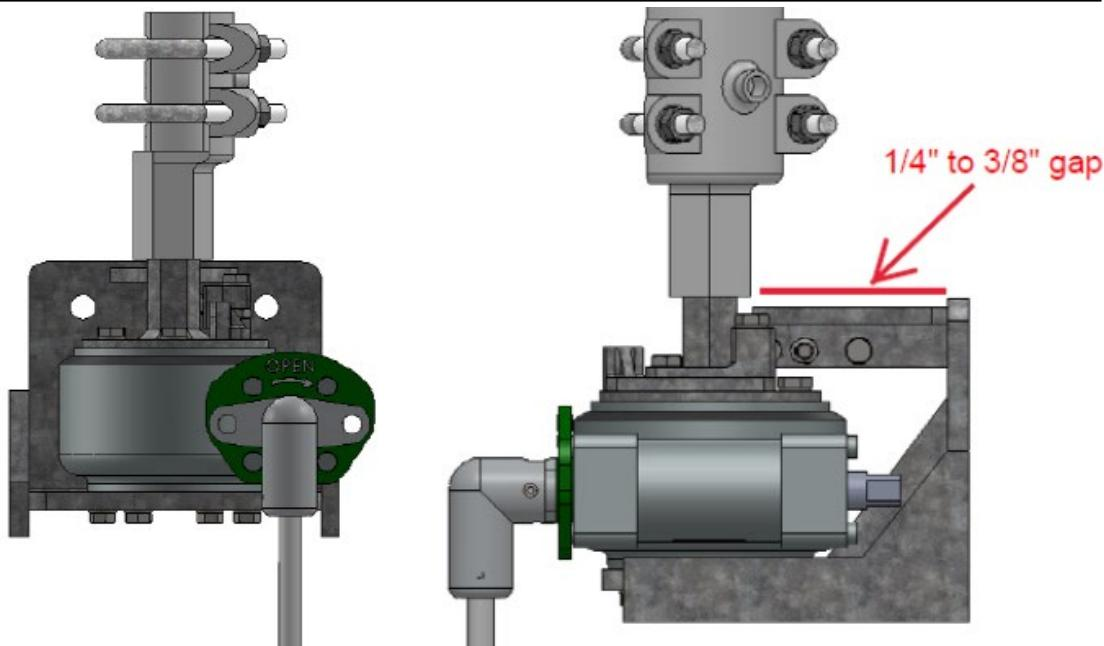

Figure 20: Type SEGO (Safety Enhanced Gear Operator)
- 2.2.1. The weight of the vertical operating pipe should be supported by pipe collar (**Figure 20**) by maintaining the 1/4"-3/8" gap.
- 2.2.2. When the switch is properly adjusted the operator handle should hang freely in both the open and closed positions to permit the use of the customer supplied padlock. Refer to **Figure 20**.